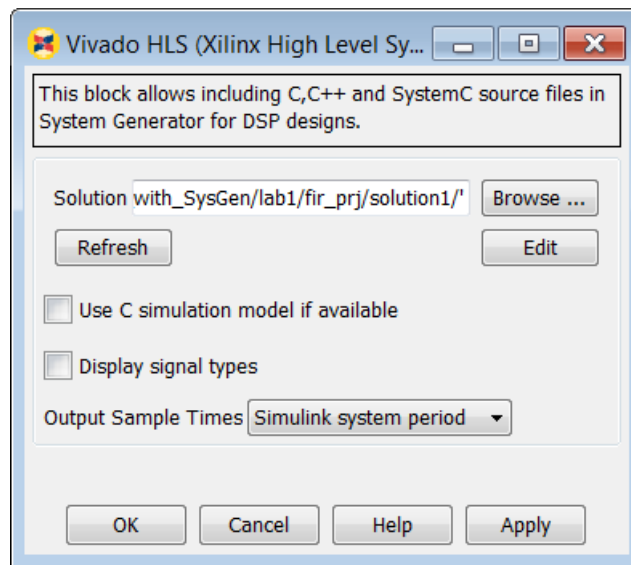

Figure 274: Selecting the FIR IP Block
8. Navigate to the fir_prj project and select the solution1 folder (**Figure 274**).